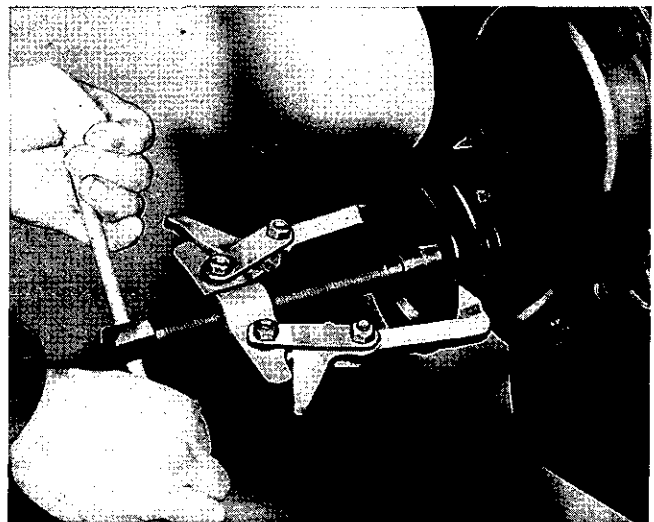

Fig. 28. Extracting fan pulley.
8. Take the weight off the front of the engine, on a lifting jack, and remove the four bolts (2 on each side) which secure the front engine flexible mountings to the chassis side member, subsequently raising the engine sufficiently to enable the removal of the fan pulley with the extractor shown in Fig 28.